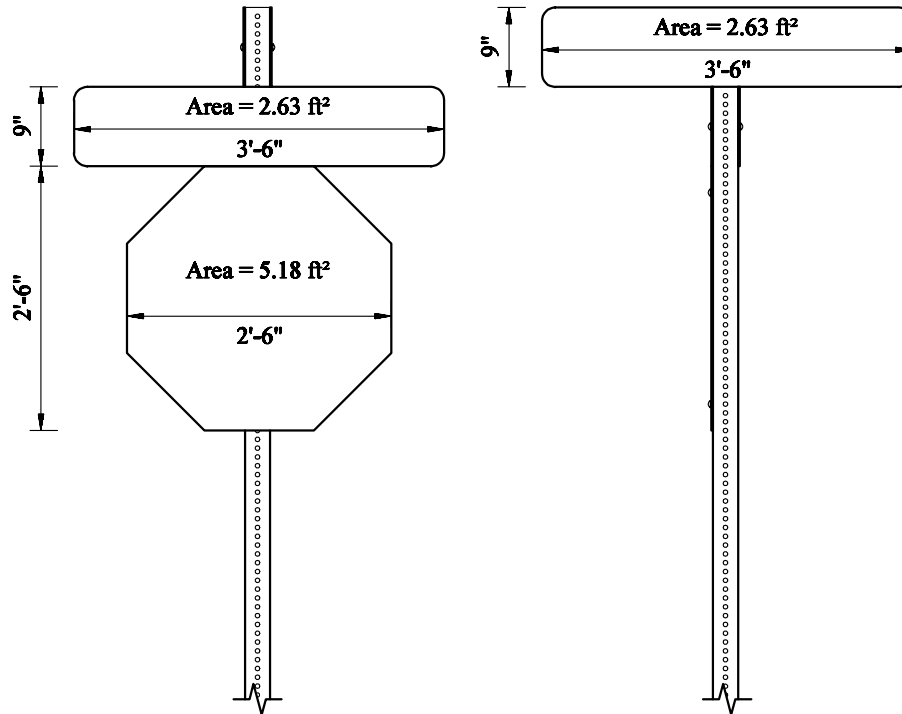

Figure 19 – Design Area Example 2
32. **Design Area**{ XE "Design Area" \b }: The largest total surface area of the signs viewed from any given side. In Figure 19, the design area would be 7.81 ft² not 10.44 ft². For the **Non Standard Signs**, the design area is calculated automatically from the **Sign Height** and **Sign Width** fields. If the design area is different than what is calculated, enter in the correct value. The design area is automatically filled in for the **Standard Assembly** and **Variable Length Signs**.
Hint: For perpendicular signs, enter in a minus number and this will add post length to the top of the sign. In Figure 19, you would enter a “-9” in the **Sign to Top Post** field.